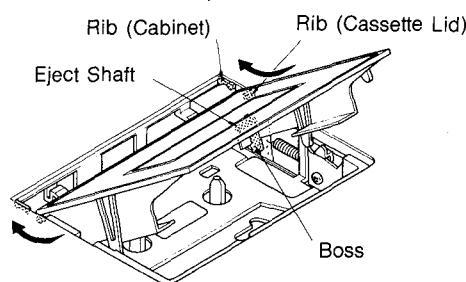

FIG. 3
- * Set boss of cassette lid just in front of eject shaft. Incline cassette lid about 45 degrees and it making sure its rib will be underneath the rib on the cassette cabinet and push it toward the rear side, as shown in Fig. 3.